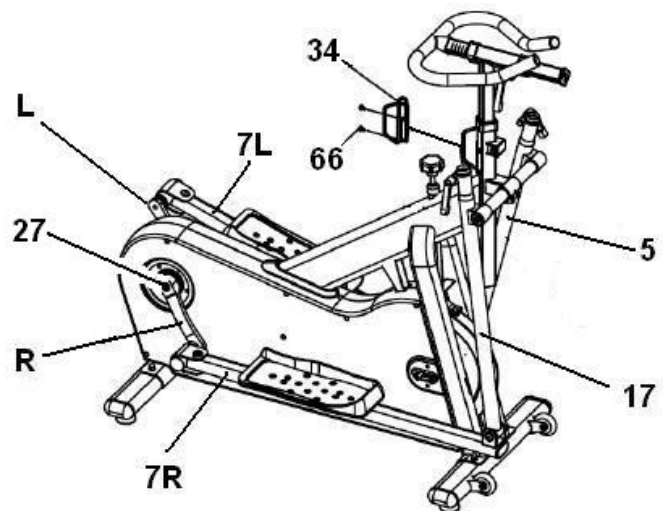

Figure 5A
Install the bottle holder (34) onto the handlebar post support on the Main body using screw (66) (Fig. 5A)